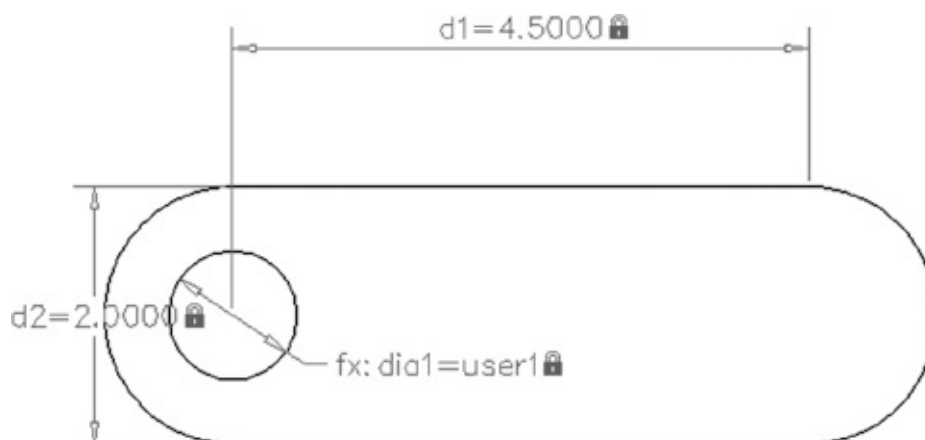

FIGURE 16.20 Change the d2 parameter and the part changes in size, including the circle.
2. Change the value from 1 to 2 and observe the effect on the part (see Figure 16.20).